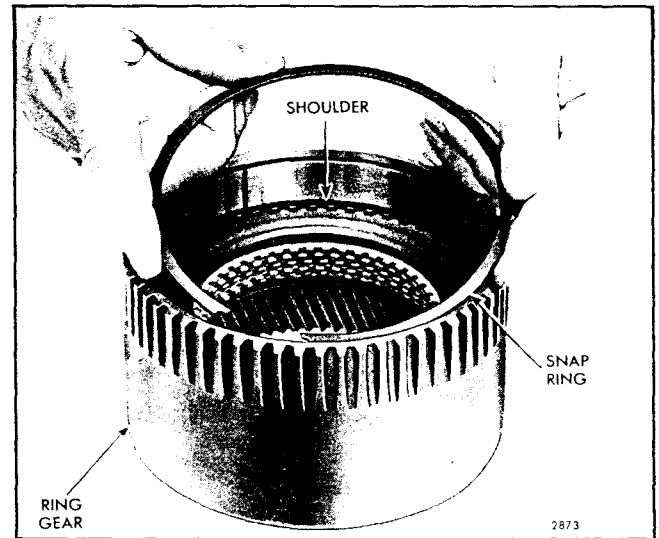

Fig. 56 - Installing Forward Clutch Pressure Plate Snap Ring in Ring Gear
- f. Install the forward clutch pressure plate snap ring inside the ring gear and seat it squarely on the internal shoulder inside the ring gear as shown in Fig. 56.
**NOTE:** The forward clutch pressure plate snap ring shown in Fig. 56 is .090" to .093" thick and has a free diameter of  $5-19/32" + 1/16"$  and is only used as a spacer and clutch release spring seat. The groove at the top of the shoulder in the ring gear is not designed to accommodate the snap ring.